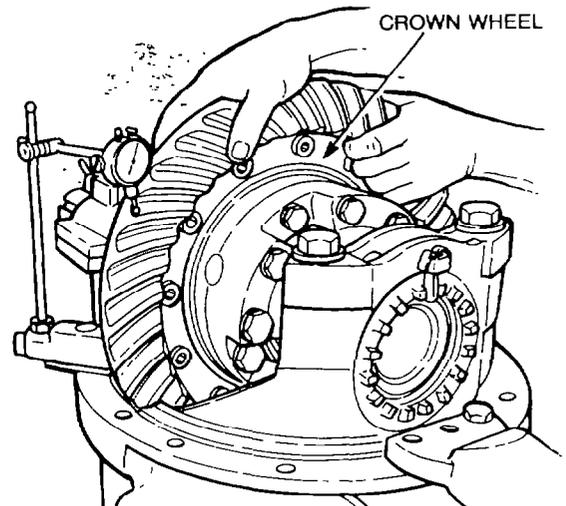

Figure 223 — Positioning Dial Indicator
- aa. Relocate the dial indicator so that the plunger rests against one of the crownwheel teeth (see Fig. 223). Block the pinion shaft to prevent the shaft from turning, then check the backlash by turning the crownwheel in one direction, to zero the dial indicator, and turning the crownwheel in the opposite direction to take a reading. A new crownwheel and pinion set should be adjusted to obtain an initial backlash of 0.254 mm (0.010 in.). If adjustment is necessary, back-off